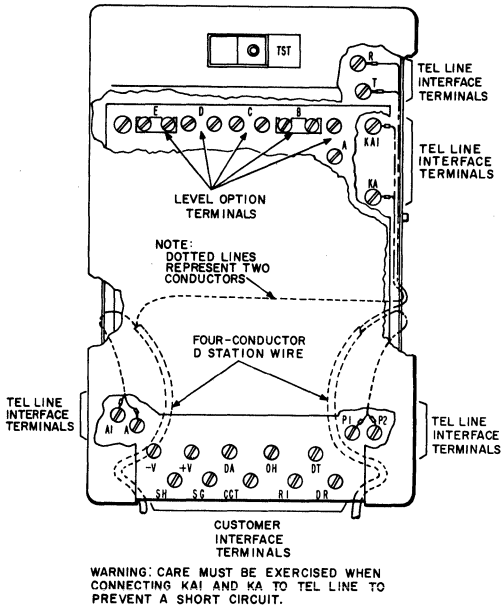

Fig. 15—Route of Station Wiring and Location of Terminals
- (4) Route the D station wire through the slots and pins on the base as shown in Fig. 15. Attach the CP to the base pan by using the four self-tapping screws in the envelope. **Connect the A and A1 leads and, if necessary, the KA and KA1 leads to the terminals on each side of the printed wiring board. Care should be taken not to overtighten screws or stripping of the base pan screw holes will result.**
- (1) Ensure that KS-20426-L1 transformer is connected to the coupler and plugged into power receptacle, or that customer-furnished power has been properly installed.
- (2) Locate and remove any existing straps on level option straps A through E (Fig. 15).